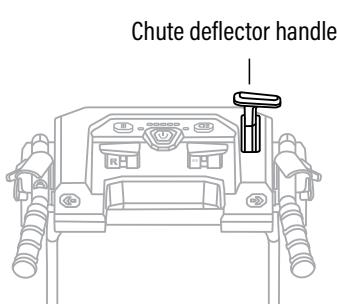

Fig. 10A
**NOTE:** The throwing distance of the snow blower is adjusted by adjusting the chute deflector up or down, the machine offers 9 different positions. (Fig. 10A)